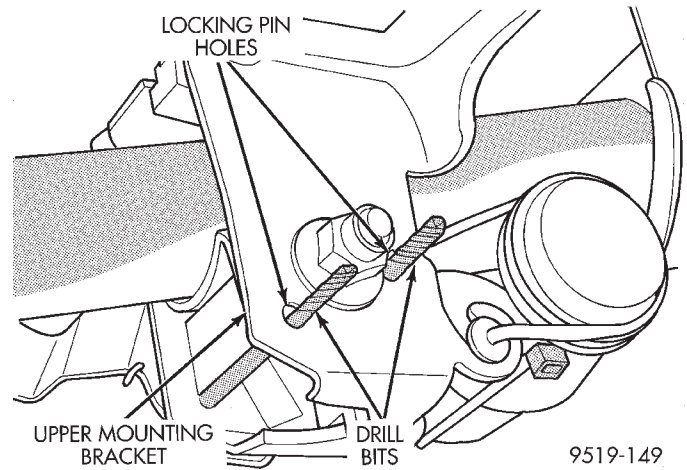

Fig. 17 Locking Pins Installed In Steering Column Bracket
(23) Place steering column so it is positioned in the middle of its tilt range. Place the steering column assembly tilt lever in its fully locked position. Then insert a 5/32 inch drill bit in each locking pin hole on the upper steering column mounting bracket (Fig. 17).
(3) Remove the 2 drill bits (Fig. 17) from the steering column upper mounting bracket. **If a new steering column is being installed in the vehicle, remove the shipping (grenade) pin from steering column upper mounting bracket.**
(4) Ensure front wheels of vehicle are positioned straight-ahead, and steering wheel master serration in steering column shaft is positioned at 12 O Clock. Assemble the lower intermediate shaft coupler to the